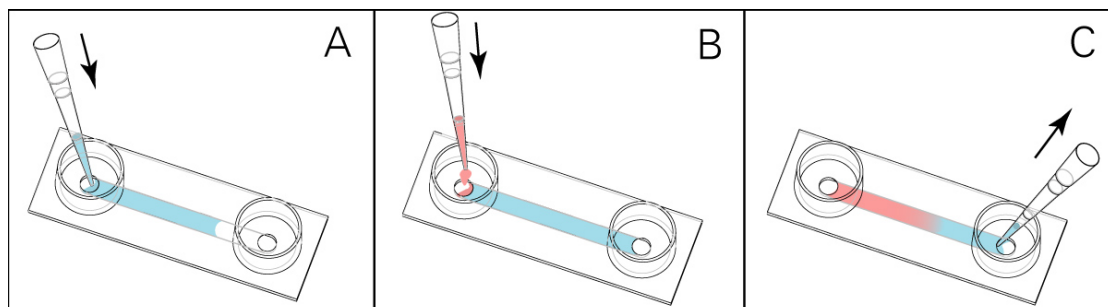

Fig. 1 Pipetting the gradient
- Prepare cells as usual and fill 100 μ l of the cell suspension into the channel (see **Fig. 1 A**). We recommend $3-7 \times 10^5$ cells/ml.
- Apply 20 - 40 μ l of your chemoattractant in one reservoir (see **Fig. 1 B**)
- Aspirate the same amount of liquid (20 - 40 μ l) from the opposite reservoir (see **Fig. 1 C**).